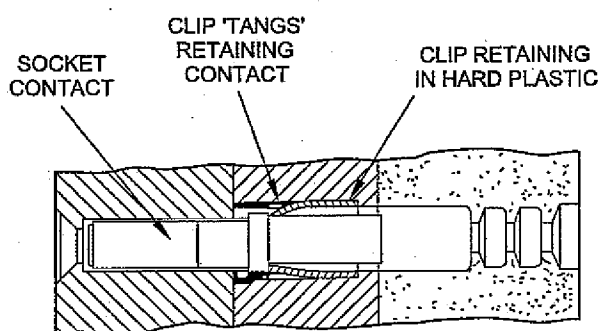

Fig 4 Contact retention
7.4 The contact is retained in the insert as shown in Fig 4.